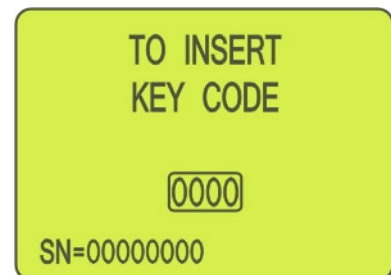

Figure 2
- When a numerical field is highlighted, the knob pressure has the meaning to enter the value modification function (for example the number 0000 is highlighted, in the page “Password” (Figure 2) when you push once it is possible to modify the figure rotating the knob, when you push twice you exit from modification modality and the knob returns to the sliding basic function).